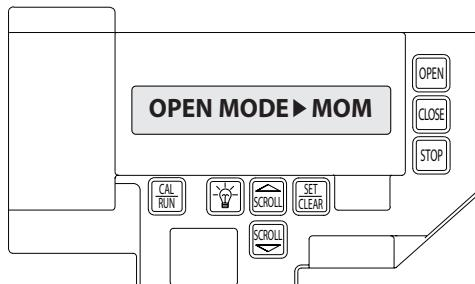

Figure 10
- 2) Press SCROLL  until display reads "OPEN MODE>MOM" or "OPEN MODE>C-STOP." **Figure 10.**
- 2) Press SCROLL  until display reads "CLOSE MODE>MOM," "CLOSE MODE>C-STOP" or "CLOSE MODE>C-REV." **Figure 10.**